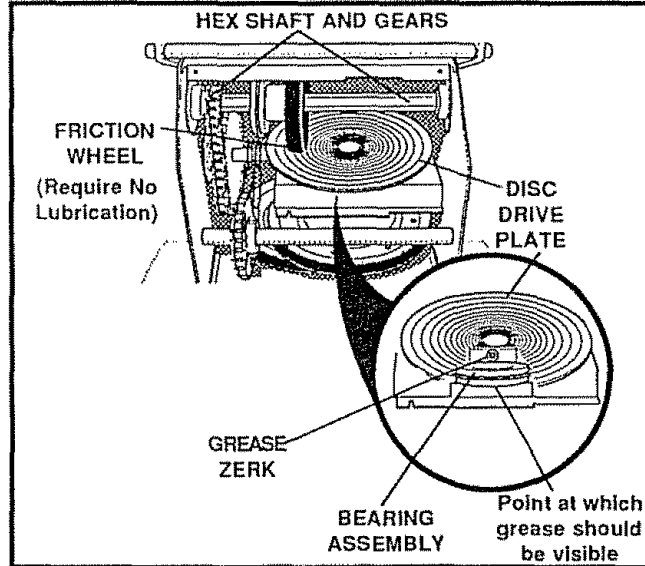

FIG. 18
- Disc Drive Plate - Using a hand grease gun, lubricate with a Hi Temp EP Moly grease, zerk located beneath the disc drive plate (See Fig 18 inset) every 25 hours and at the end of the season and/or before storage. To grease zerk, turn disc drive plate clockwise by hand until zerk is clearly visible at front center. DO NOT overfill or allow grease to come in contact with the disc drive plate or friction wheel or
- Hex Shaft and Gears - Hex shaft and gears require no lubrication. All bearings and bushings are lifetime lubricated and require no maintenance (See Fig 18).
**NOTE:** For storage, the hex shaft and gears should be wiped with 5W-30 motor oil to prevent rusting (See Fig 18).